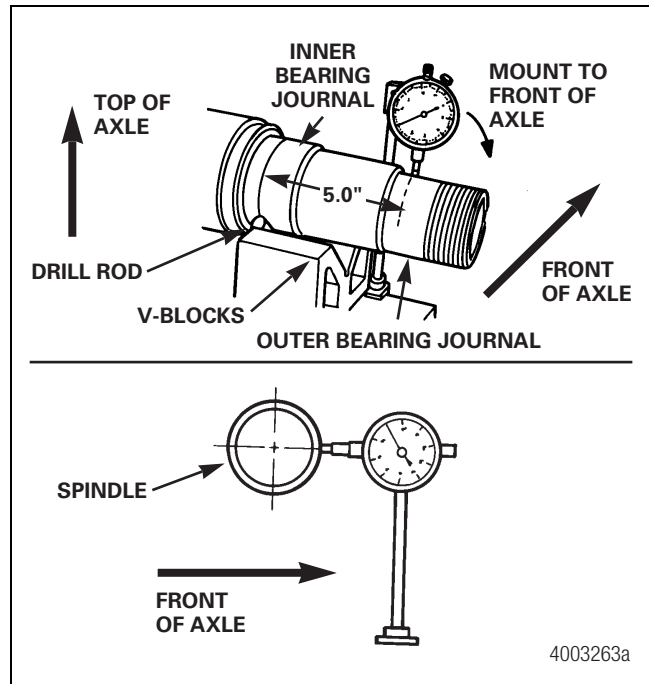

Figure 8.19
2. At the front of the axle, measure exactly five-inches (127 mm) from the line on the inner bearing journal to the outer bearing journal. Mount a dial indicator so that the stem measures horizontal runout. Figure 8.19.